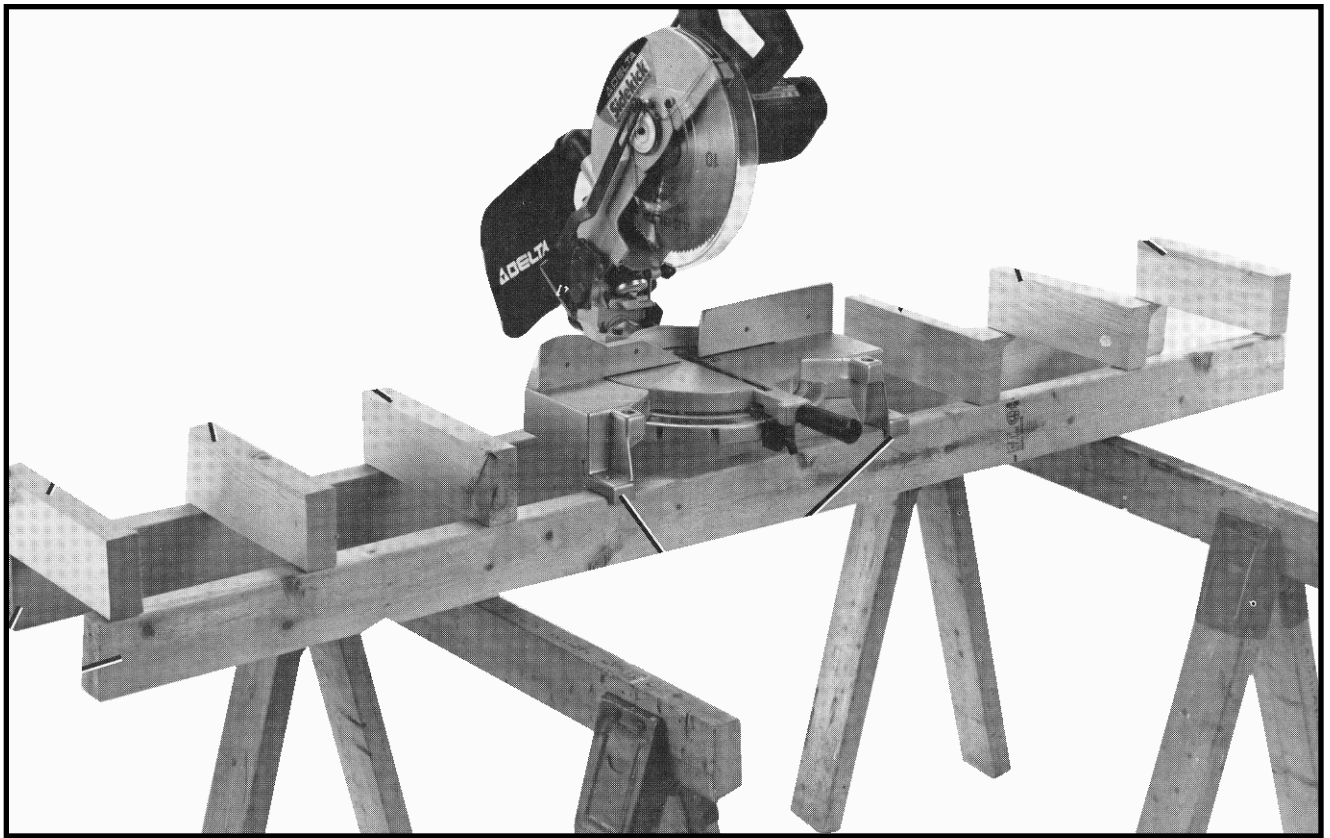

Fig. 46
One of the unique features of your miter box is the ease with which you can construct work supports. Fig. 46, illustrates the miter box mounted to two standard 2 x 4's (A). Fasten the grooves in the four mounting legs, two of which are shown at (B), to the 2 x 4's using four screws through the four holes in the mounting legs. The length of the 2 x 4's (A) can vary depending on your preference. The distance from the top of the 2 x 4's (A) to the compound miter box table is 3-1/2 inches. This enables you to fasten standard 2 x 4's (C) to the top of the 2 x 4's (A), as shown. The top of the 2 x 4's (C) will then be the same height as the miter box table. This method allows you to provide support for long work-pieces using standard 2 x 4's instead of constructing an expensive, complicated work support.